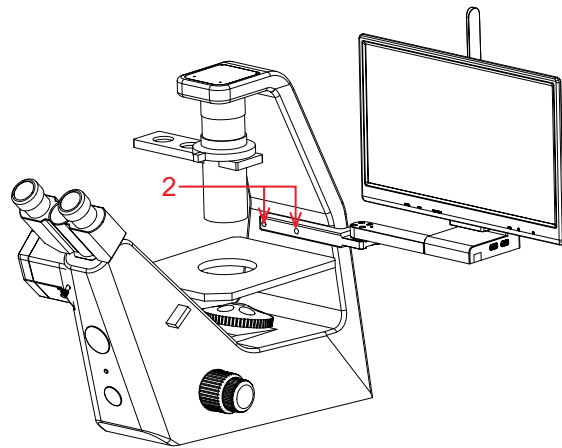

Figure 4
- 2) Attach the display to the side of the microscope with the 2 screws in the position and direction as in Fig. 4.